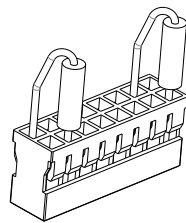

Figure 7
- VTO2001-U2/U3 Option Module (24 Switches), install an A5Q00055918D End-of-Line (EoL) terminator as shown in Figure 7 in connector X204 of the VTO2001-U2/U3 Module and proceed to Part 2, below.